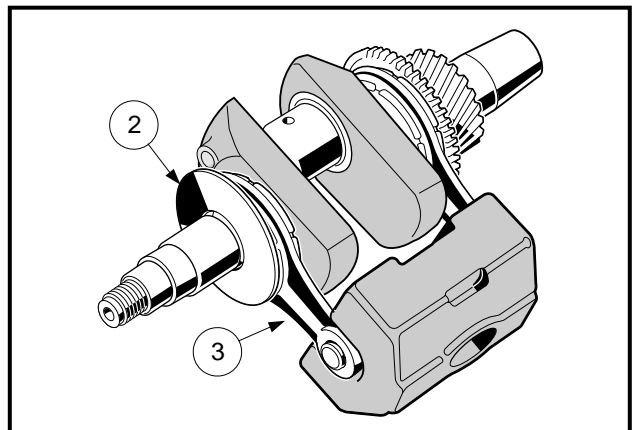

Figure 13-74 Crankshaft and Counterbalance
2. Pull out the crankshaft and the counterbalance together as an assembly (**Figure 13-74, Page 13-35**).
1. Slide the spacer (2) and the link rod (3) off the flywheel end of the crankshaft. Remove the counterbalance from the remaining link rod (**Figure 13-74, Page 13-35**). **Go to Link Rod Inspection on page 13-37.**